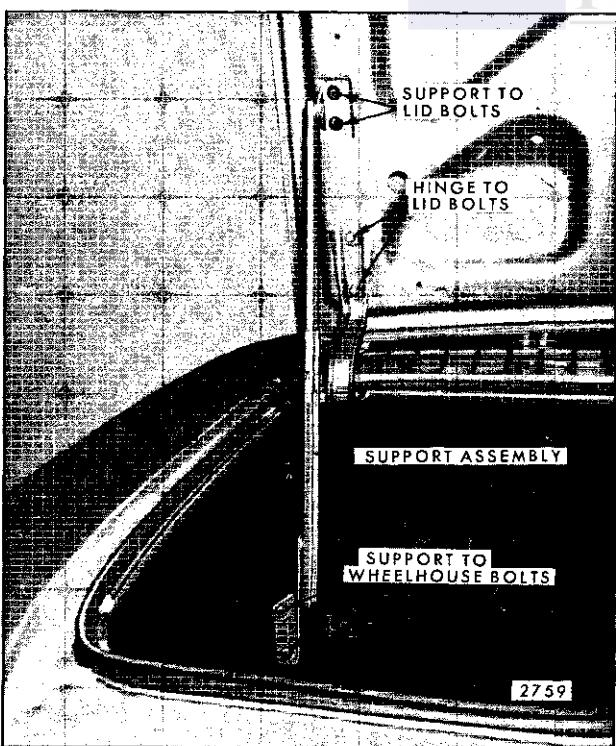

Fig. 8-12—Engine Compartment Lid Support – "Z" Body Styles
2. Remove two attaching bolts securing support to lid and two bolts securing support to wheelhouse and remove support from body (see Fig. 8-12).